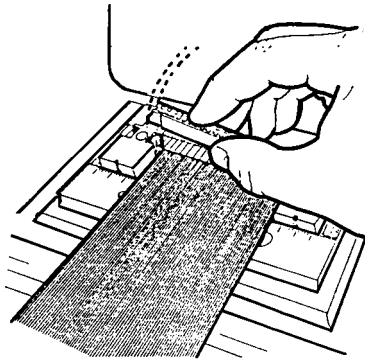

Figure 6.
4. Place the cable/cover sub-assembly between the guides on the locator plate, cover side down. (See Figure 6)
5. Orient and position connector body — contacts down over the cable/cover sub-assembly, engaging cover retainer devices with body slots. (See Figure 6)